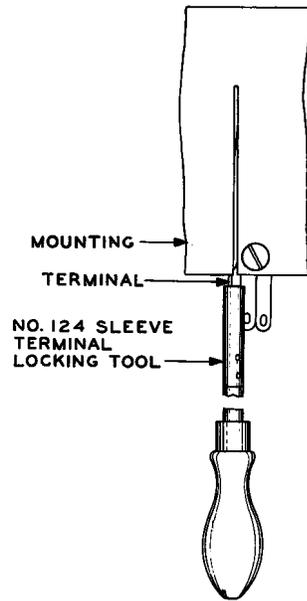

Fig. 9 – Method of Locking Sleeve Terminal With 124 Sleeve Terminal Locking Tool
3.16 On the 49-type jack, twist that portion of the sleeve terminal extending in back of the mounting by applying the 124 sleeve terminal locking tool over the terminal as far as possible and holding the terminal down in the slot in the rubber mounting as shown in Fig. 9. Turn the locking tool 90 degrees in a counterclockwise direction.